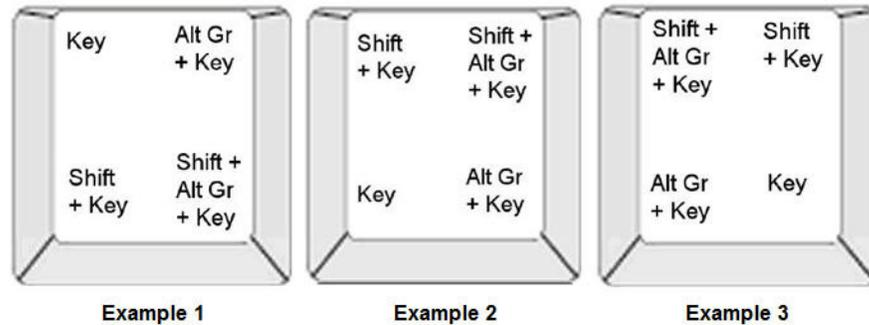

Figure 6 • Keystroke Combinations
Keypcaps show characters in one of four positions (see Figure 6). The character position on the physical key indicates how to access the characters with the <Shift> and <Alt Gr> keys.
In Figure 6, Example 1 shows how to access characters in normal operation (caps lock and Alt-GR keys not activated). Example 2 shows how to access characters when caps lock is on. Example 3 shows how to access characters using the Alt-GR key.
2. Type the appropriate keystroke combination (see *Figure 6*). The table shows example keystroke combinations.